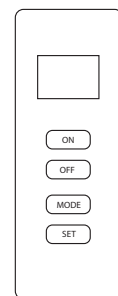

Fig. 28 - Remote
7. Keep control knob depressed for (30) seconds after pilot lights. Release control knob.
- If pilot goes out repeat steps 3 through 7. Wait (1) minute before attempting to light pilot again. If after several tries the pilot still goes out, turn the gas control knob clockwise  to the “OFF” position and call a qualified service technician.
9. To use the included thermostatic remote control, set receiver switch to the “REMOTE” position (See Fig. 28). Press the ON button to turn on the remote to ignite the main burner. Refer to the remote control instruction manual on the next page for “MODE” and “SET” functions.